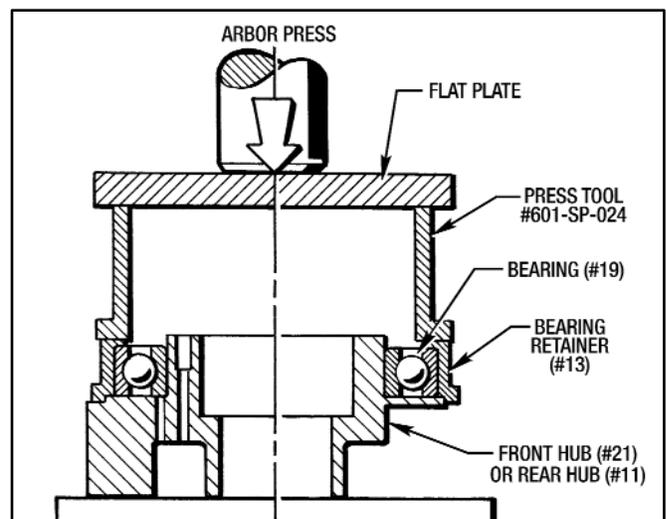

Figure 7.2 - Installing Bearing & Retainer onto Hub
4. Place the Front Hub (#21) into an arbor press and install the Bearing and Retainer onto the Hub. Use the large end of Tool #601-SP-024 as shown in Figure 7.2.